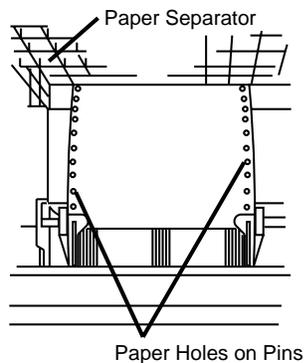

Figure 9-6. Model 602 Paper Alignment
6. Place a stack of paper beneath the ROP, and pull the paper through the opening between the ROP and the rear cover. Place the first two holes in the paper on each side over the tractor pins. See Figure 9-6.